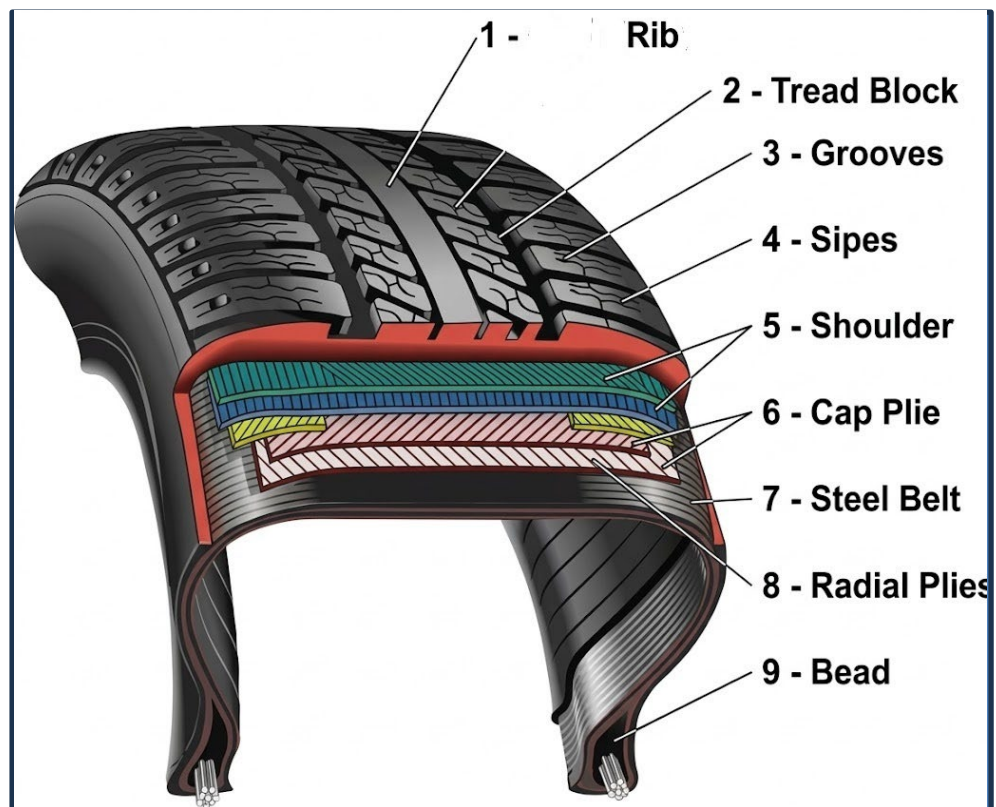

Figure 4 (b)
- (b) **Figure 4 (b)** shows the cross section of a tyre. Prepare the function of the structures labelled 1 to 9.